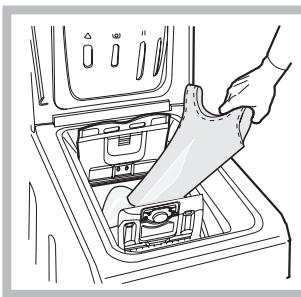

Fig. 3
- C) Introducerea rufelor (Fig. 3)**